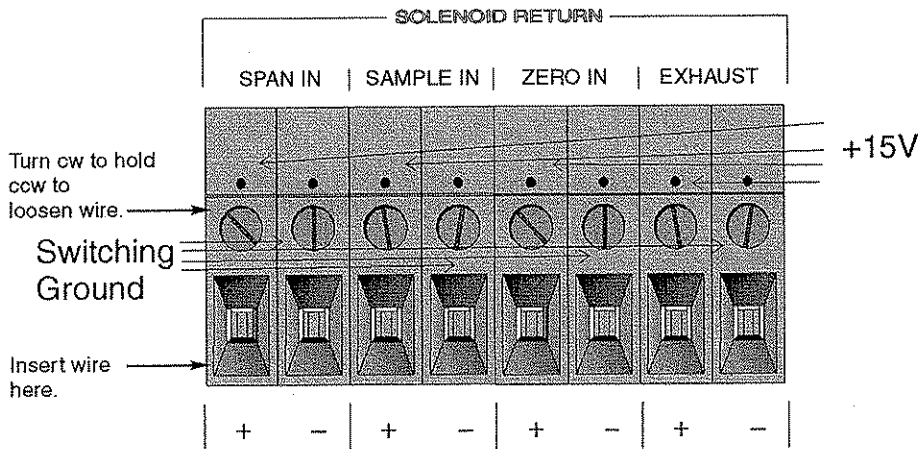

Figure 3-6: Remote Probe Connector Pinouts
There are three alarm-circuit connectors on the alarm relays block (under RELAY OUTPUTS) for making connections to internal alarm relay contacts. Each provides a set of Form C contacts for each type of alarm. Each has both normally open and normally closed contact connections. The contact connections are indicated by diagrams on the rear panel. They are capable of switching up to 3 amperes at 250 V AC into a resistive load (Figure 3-6).
**Remote Sensor and Solenoid Valves:** The 3010TBC is a single-chassis instrument. However, the REMOTE SENSOR and SOLENOID RETURN connectors are provided for use with a remote sensor and/or sampling system, if desired. See Figure 3-6.